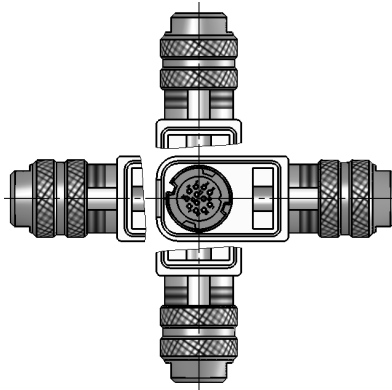

Fig. 12: Angled positions
**Changing the angle position (Fig. 12)**
1. Slightly unscrew pressing screw (1).
2. Remove cover (8).
3. Untwist insert (7) and turn to the desired angle position (90° steps) and then twist it again.